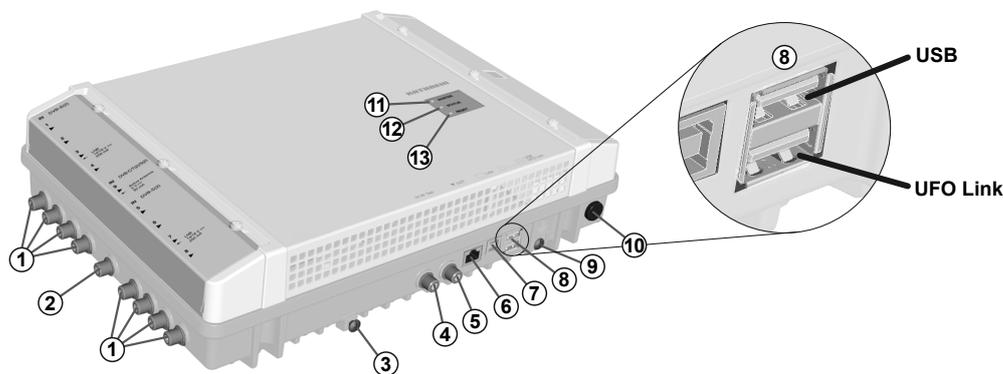

Fig. 1: Device elements
1. Connect a potential equalisation wire (Cu, $\geq 4 \text{ mm}^2$) to the earthing screw; see ④ in Fig. 1, P. 3.
- The plugs must be inserted into the master and slave at the appropriate UFO link interface ports (③ in Fig. 1).
4. Connect the RF signal cables for the antenna, cable network and output to the head-ends; see ①, ② and ⑤ in Fig. 1, P. 3.